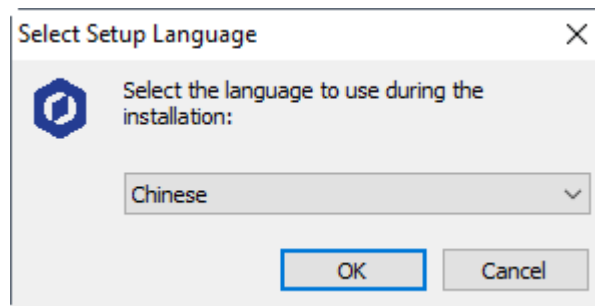

Figure 2.4 The Select Setup Language dialog box
- Step 2** In the installation directory double-click **DobotStudioSetup.exe**. The **Select Setup Language** dialog box is displayed, as shown in Figure 2.4.